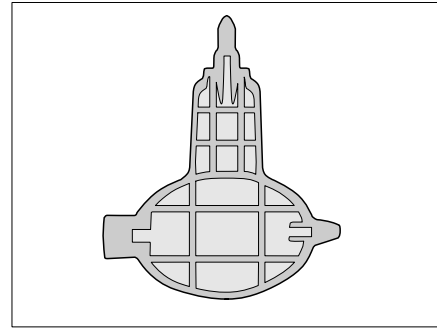

Fig. 355 Key for Siphon (only Alpa)
- ▷ The Alpa model has a key (Fig. 355) enclosed for the releasing the siphon.